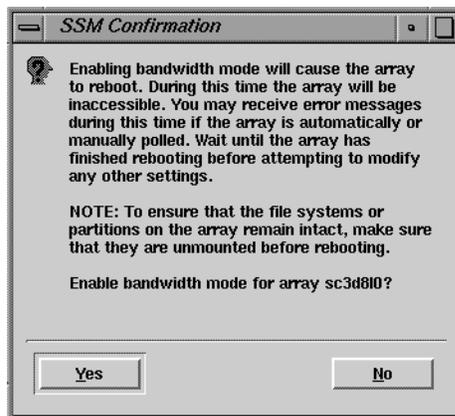

Figure 2-18 Enabling Bandwidth Mode, Confirmation Window
- Click Enable BandWidth Mode in the Array menu of the Array Configuration window. A confirmation window opens, as shown in Figure 2-18.